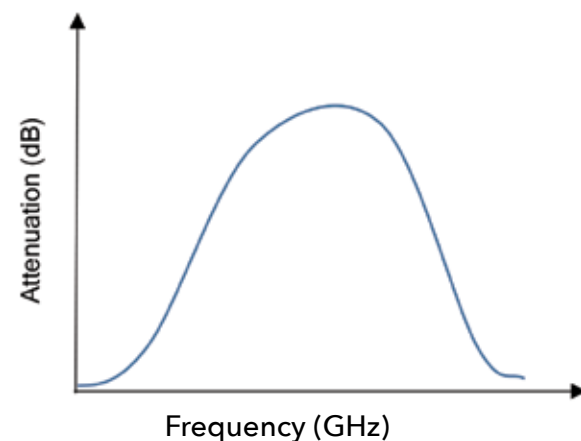

Figure 4: Positive parabolic equalizer
- **Positive Parabolic Equalizers (Figure 4)** have an insertion loss response that increases in a parabolic shape as frequency increases. These are used to equalize gain variation in systems that have high gain at the band edges and low gain near the center frequency.